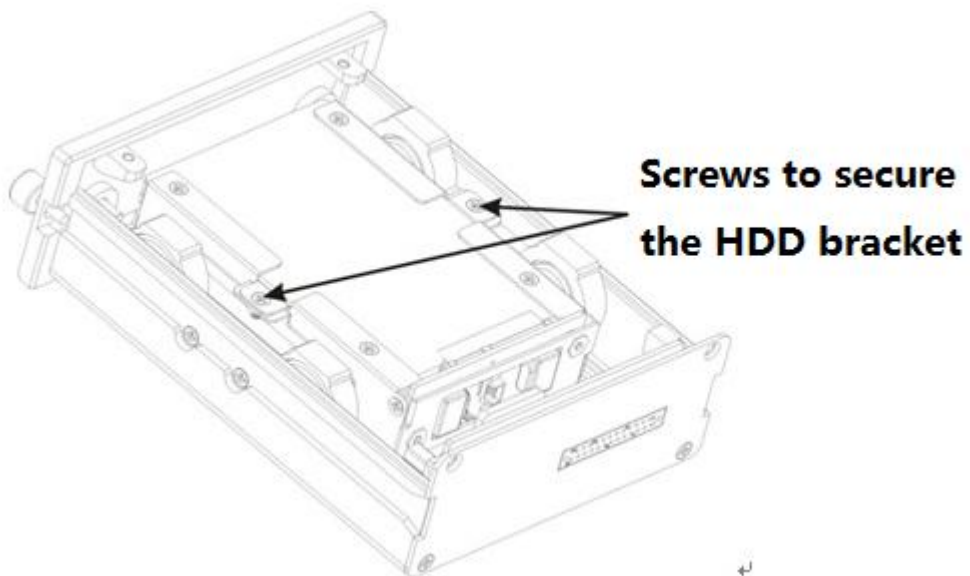

Figure 3-5
- 5) Install HDD bracket. Put the HDD bracket to the HDD box. Secure the two screws of the HDD bracket. See Figure 3-5.